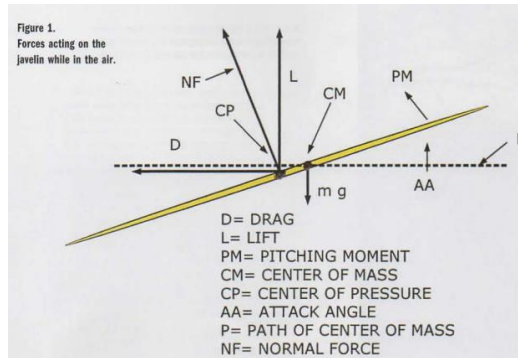

Fig.28: Forces acting on Javelin [A. Maheras, 2013]
1. Undertake the effect of tail wing on Javelin throw range (Fig. 28).
3. Undertake the effect of angle of throw on Javelin range (Fig. 28).